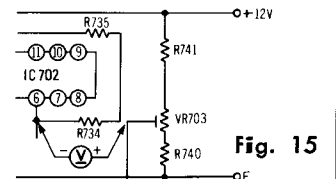

Fig. 15
<p>G Capstan motor circuit adjustment</p> <p>Condition:</p> <ul style="list-style-type: none"> <li>* Playback mode</li> </ul> <p>Equipment:</p> <ul style="list-style-type: none"> <li>* DC voltmeter</li> <li>* Oscilloscope</li> </ul>	<p>A. Standard DC power supply voltage adjustment</p> <ol style="list-style-type: none"> <li>1. Measure the DC voltage between central point of VR703 and ⑥ terminal of IC702 as shown in fig. 15.</li> </ol> <div style="border: 1px solid black; padding: 5px; width: fit-content; margin: 10px auto;"> Standard voltage: <math>0 \pm 0.05\text{V}</math> </div> <p>2. If measured voltage is not within standard, adjust VR703.</p> <p>B. Phase lock point adjustment</p> <ol style="list-style-type: none"> <li>1. Measure the DC voltage between ④ terminal of IC702 and ground as shown below.</li> </ol> <div style="border: 1px solid black; padding: 5px; width: fit-content; margin: 10px auto;"> Standard voltage: <math>5.2 \pm 0.1\text{V}</math> </div> <p>2. If measured voltage is not within standard, adjust VR702.</p> <p>C. Position detecting signal output level adjustment</p> <ol style="list-style-type: none"> <li>1. Connect oscilloscope to test point (T.P. P.V.).</li> <li>2. Measure the peak-to-peak voltage of position detection signal of test point with the oscilloscope.</li> <li>3. If the measured signal voltage is markedly different from the voltage shown below, make the necessary adjustment with VR701.</li> </ol>